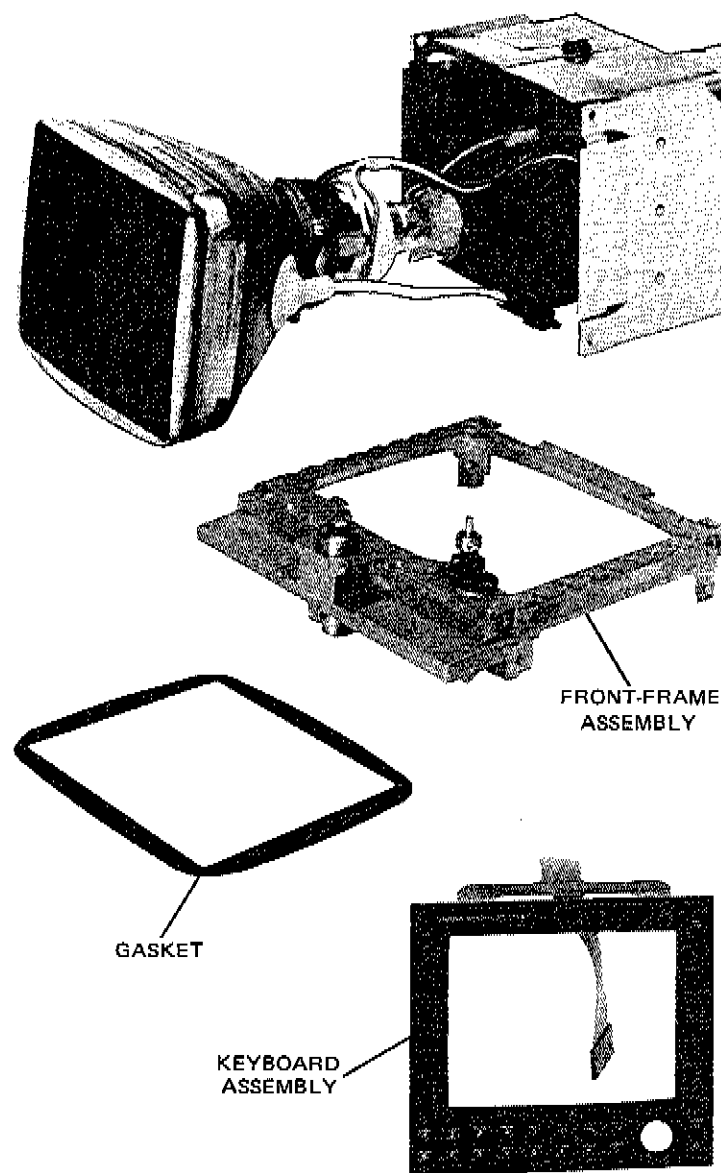

Figure 7. CRT Removal and Replacement
7. Remove the CRT and the front gasket. Save the gasket for reinstallation. See Figure 7.
1. Supporting the module on the rear panel, place the CRT into the instrument housing and replace the front gasket. See Figure 7.